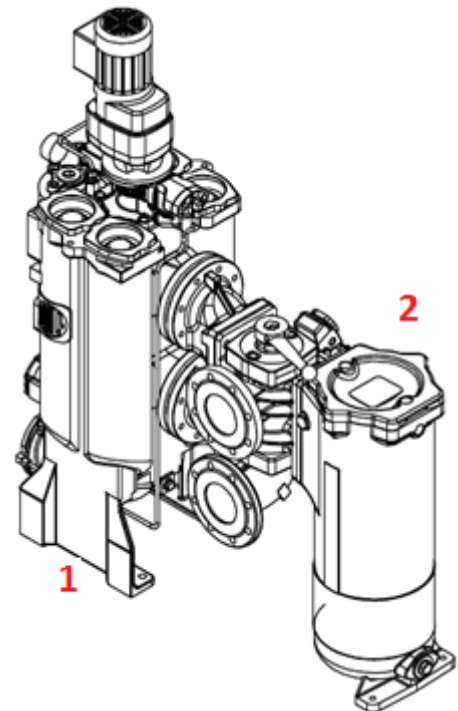

Figure 1 – BOLL & KIRCH Auto-Filter. (1) Main filter and (2) Redundancy filter.
The present filter configuration consists of a main 6µm filter (specified to maintain the oil cleanliness level by removing particles generated in service) and a redundancy 25µm filter (if the main filter should fail). See Figure 1.
Remove the top cover of the Redundancy filter. Take out the Redundancy filter and store it in the box which the SFF came in. Install the new SFF in the same compartment as the Redundancy filter i.e. see Figure 1 (2). For large bore engines the SFF contains several cartridges and will be mounted on a holder. For small bore engines the SFF comes as single cartridges.